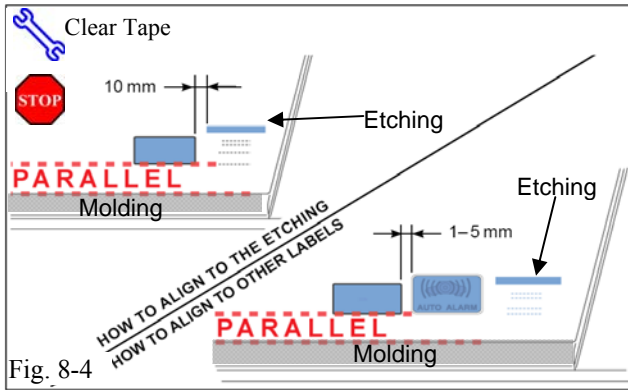

Fig. 8-4
- (g) Use Household Glass Cleaner to clean the inside of the Front Door Window. (Fig. 8-4)
- (i) Attach the Label as shown. (Fig. 8-4)
NOTE: Make sure to Align according to Etching or Other Label. (Fig. 8-4)